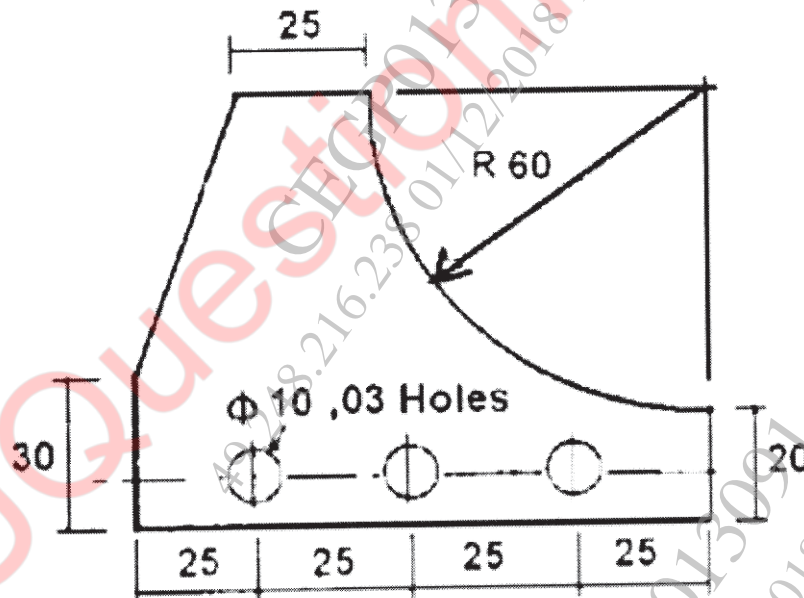

Figure 3:
- Q6) a)** Write CNC program using G and M codes to Face mill, contour the component, also drill holes for sketch shown in figure 3. Use subroutine wherever applicable. Thickness of blank is 25 mm. Assume suitable data for speed and feed. [12]